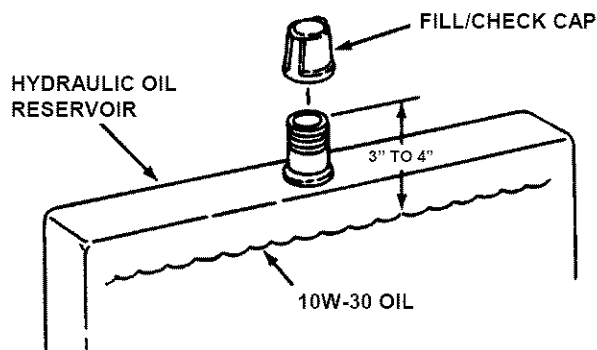

FIGURE 3.1
3.1.1. HYDRAULIC OIL RESERVOIR: Use SAE 10W-30 oil. Fill reservoir with oil until the level comes to within 3 to 4 inches from the top of the filler neck. See Figure 3.1.